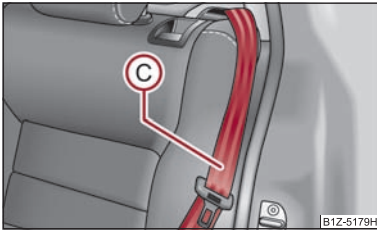

Fig. 51 Lock the seat backrest
- Place the rear lateral seat belt (C) behind the edge of the side trim panel ⇒ fig. 51.